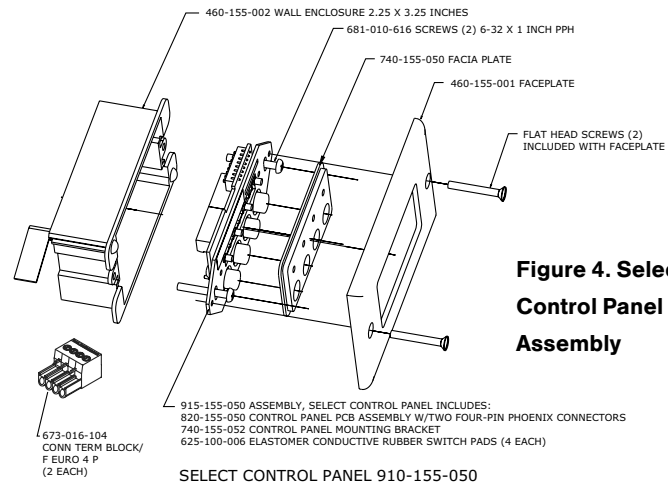

Figure 4. Select Control Panel Assembly
Step 5 As shown in Figures 4 and 5, use the supplied pan-head screws to install the Control Panel PCB assembly to the electrical wall box.
Step 6 To install the facia plate, position it over the conductive rubber switch pads on the PCB assembly, as shown in Figures 4 and 5.